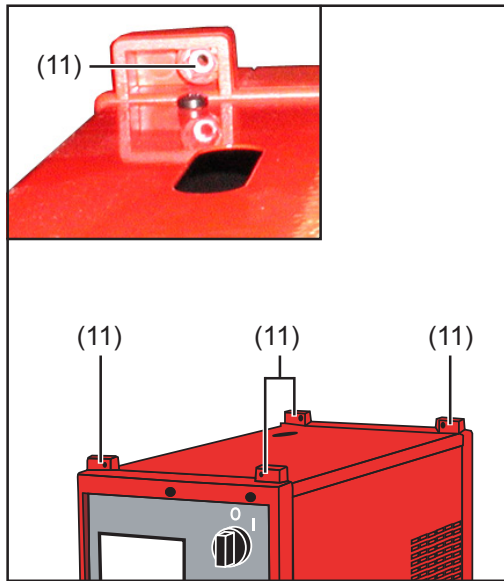
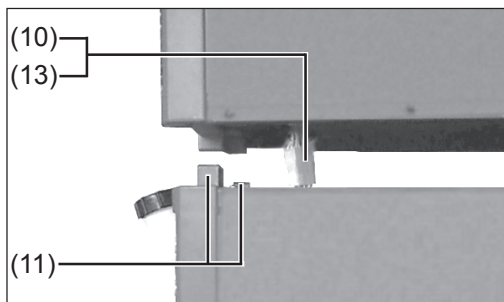

Fig.17 Fixing bars on the top of the autotransformer or cooling unit
Fig.19 Plug-in connection between the power source and the cooling unit
1. On the top of the autotransformer, push the hexagonal nuts from the inside into the hexagonal openings (11) on the fixing bars (Fig.17 and Fig.19)
4. Pull the connector (13) of the power source as far as possible through the opening on the underside (Fig.19)
5. Replace the plug-in connection (10) between the power source and the cooling unit (Fig.19)